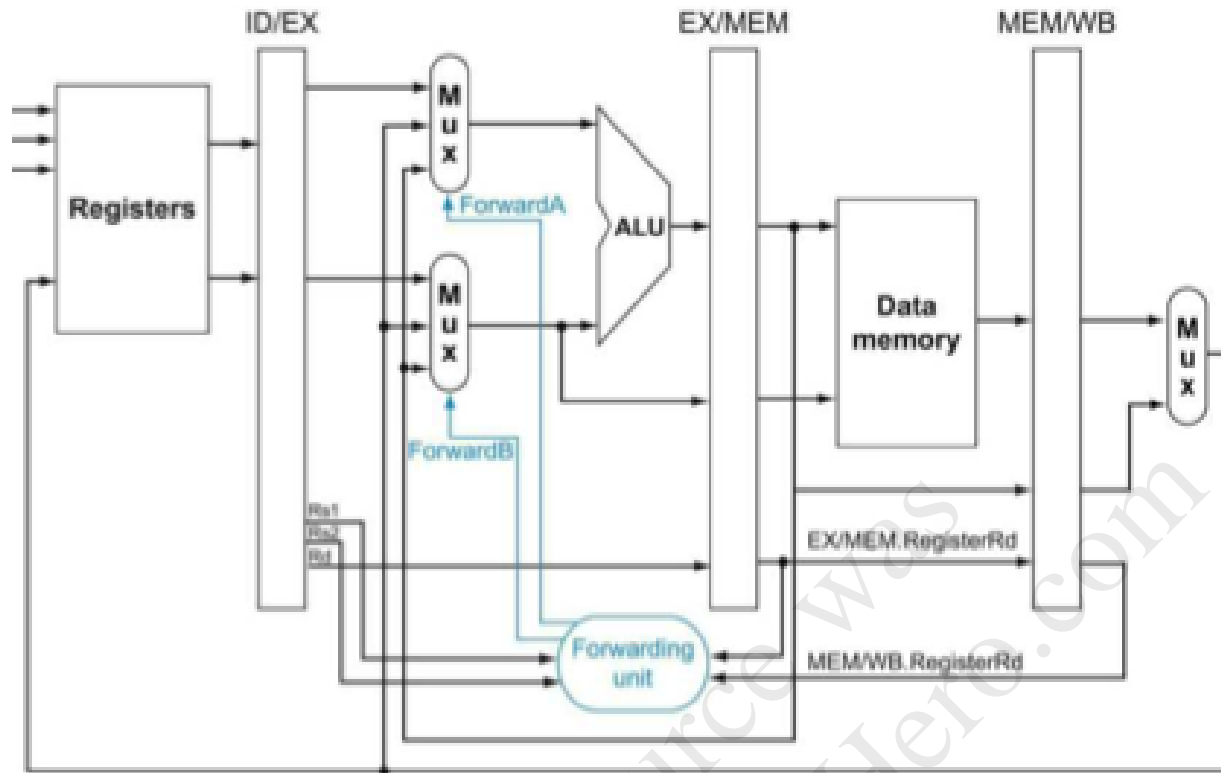

Figure 2: 5-stage pipeline with forwarding and without hazard detection
- 4) Consider the 5-stage pipeline design with forwarding, but without hazard detection logic shown in Figure 2. In this case the compiler is responsible for avoiding RAW hazards. Insert the minimum number of required NOPs into the instruction stream **without re-ordering** instructions to avoid all hazards. Calculate the average CPI of this code, assuming a CPI of one for all instructions. **(3 Points)**
- 5) Consider the 5-stage pipeline design with forwarding, but without hazard detection logic shown in Figure 2. In this case the compiler is responsible for avoiding RAW hazards. Optimize execution time by re-ordering instructions and then insert the minimum number of required NOPs into the instruction stream. Be careful to not change the output of the code when applying transformations. Calculate the average CPI of this code, assuming a CPI of one for all instructions. **(3 Points)**
- 6) Consider the 5-stage pipeline design with forwarding, but without hazard detection logic shown in Figure 2. Determine the combinatorial logic required to control the forwarding multiplexers. Use two different expressions, one for forwarding path A and one for forwarding path B. **(2 Point)**